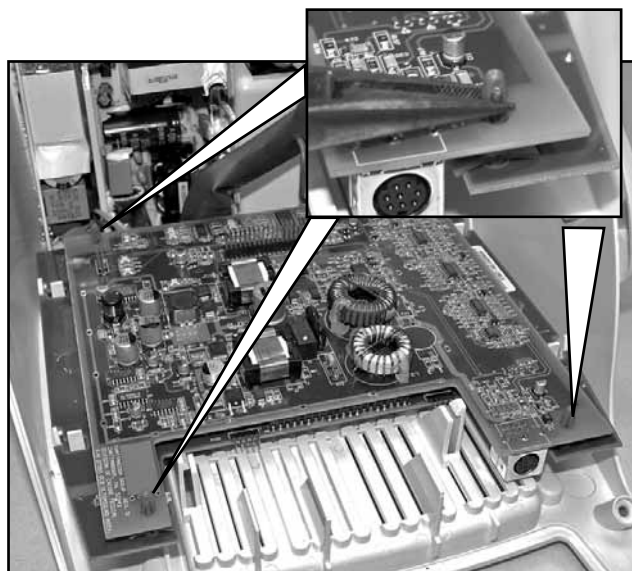

FIGURE 6.37
3. Gently and firmly pull up the back corners of the Ultrasound Board and use the Needle Nose Pliers to release the board from the Blue Stand offs in each corner of the Ultrasound Board. See Figure 6.37.
5. Use the Needle Nose Pliers to release the Ultrasound Board from the front Stand Offs. See inset in Figure 6.37.